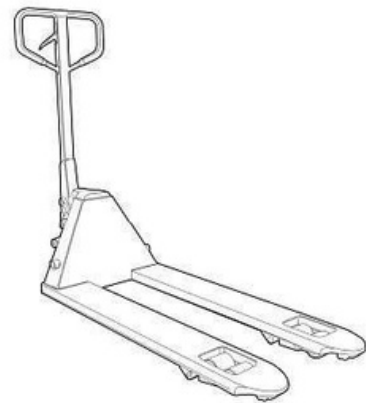

Fig 2 . Pallet Jack
- With the economy laboratory freezer being on a skid it can be moved around using a pallet jack until it is unpacked. **(Fig 2)**